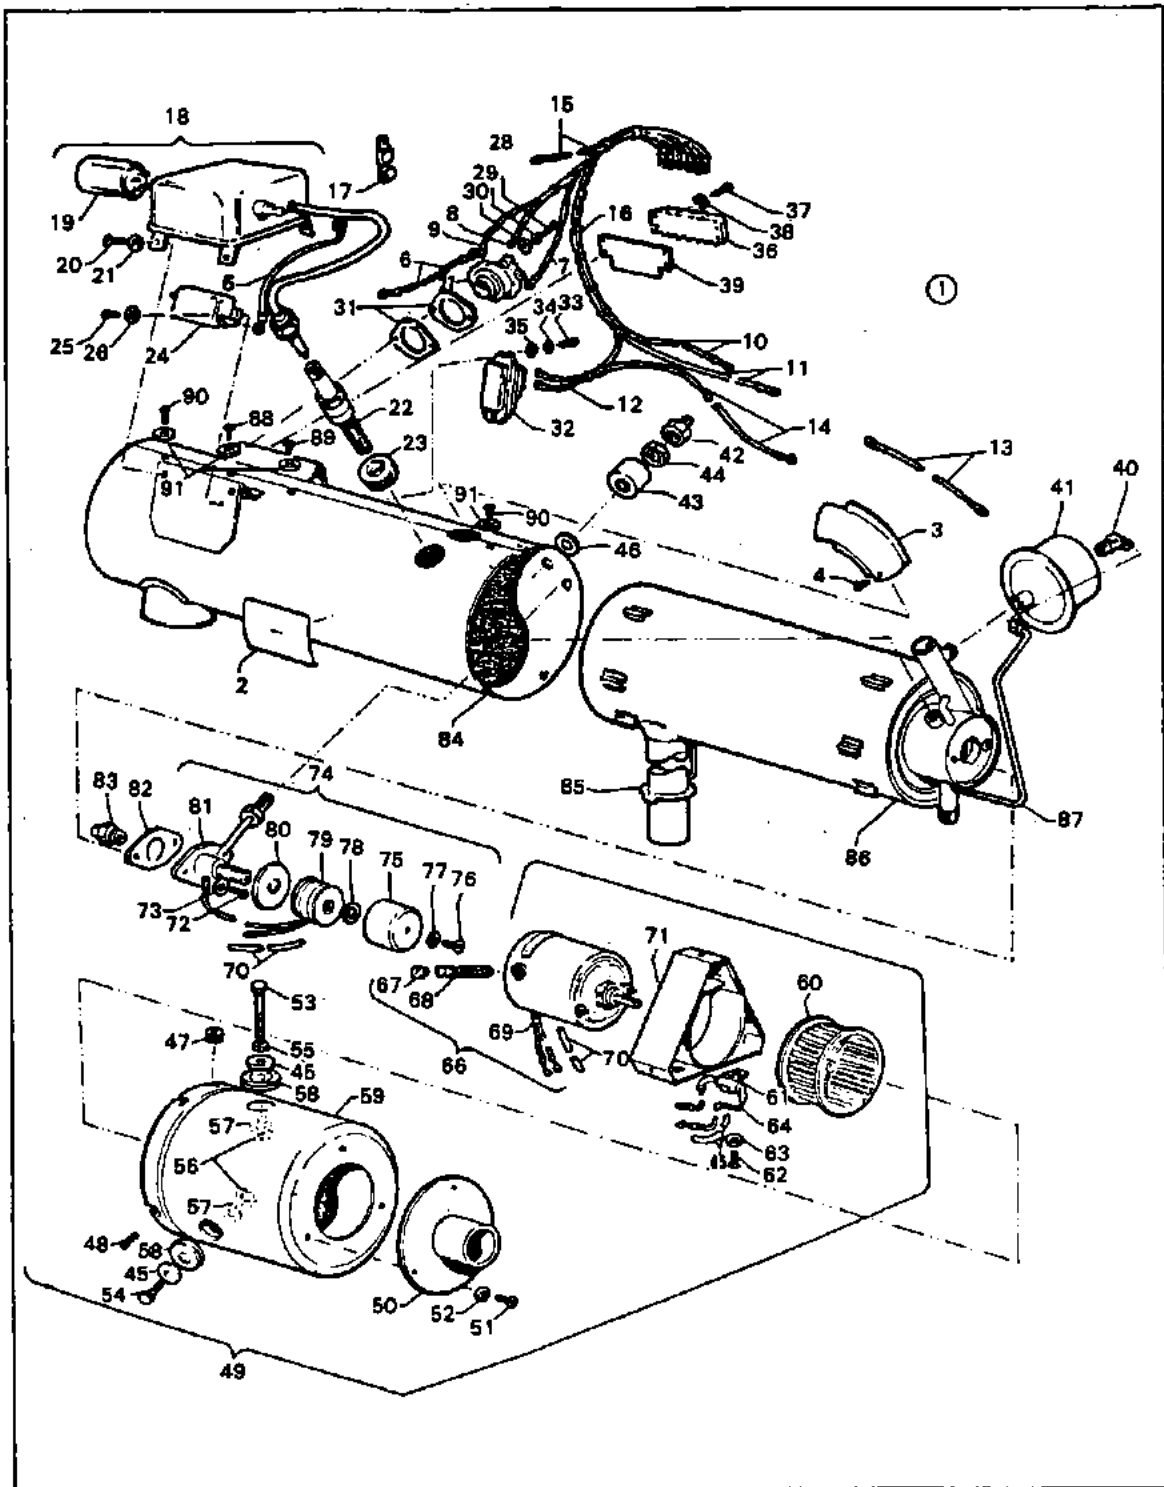

Figure 13-25. Exploded View of Heater Assembly No. 751 959
13-110. CLEANING. (Refer to Figure 13-25.)
13-111. CLEANING AND INSPECTING THE COMBUSTION TUBE ASSEMBLY. (Refer to Figure 13-25.)
13-112. INSPECTION OF REMAINING COMPONENTS. (Refer to Figure 13-25.)
f. Inspect the ignition assembly (18, Figure 13-25) for dented case, loose or damaged primary terminal insulator and broken or obviously damaged high-voltage lead. Give particular attention to the condition of the spring connector at the end of the lead. If the spring is burned off, visibly eroded, or carbon tracked, the ignition assembly should be replaced.
- e. Spray test the nozzle (see (83), Figure 13-25) as follows:
13-115. REASSEMBLY. (Refer to Figure 13-25.)
← Legend for Figure 13-25.